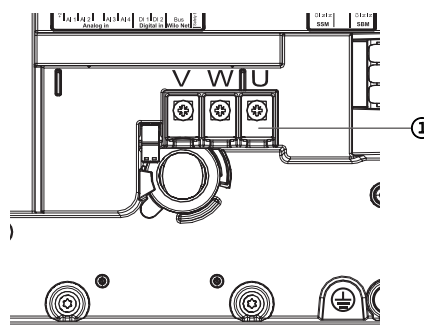

Fig. 115: Motor connection terminals V, W, U
5. Disconnect the motor connection cable (Fig. 115).